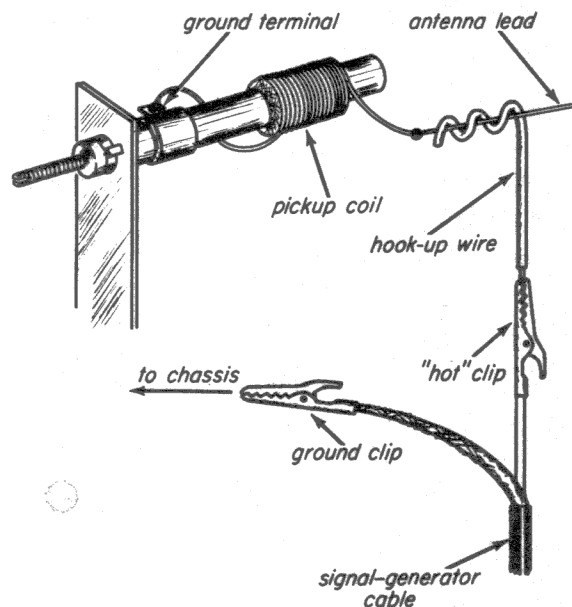

Fig. 31-5
Step 4. Cut off a 3- or 4-inch piece of hook-up wire. Strip $\frac{1}{4}$ -inch of insulation from one end. Wrap this piece of wire around the antenna lead near the chassis, making 3 or 4 turns, as shown in Fig. 31-5. Connect the hot alligator clip to the bare end of the hook-up wire, and the ground clip to the receiver chassis.